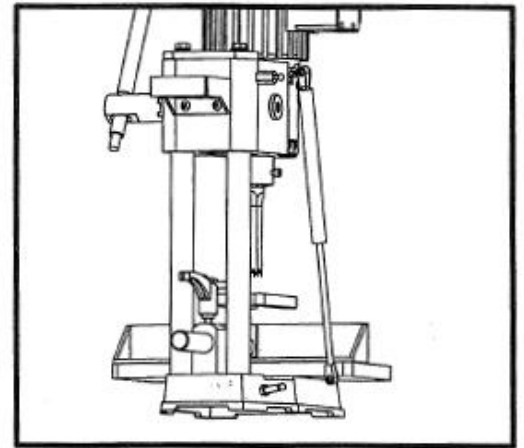

Fig.3
3. The gas spring ends snap into place over the ball-end junction. It may be necessary to compress the gas spring slightly to align the sockets in the gas spring with the ball-end junction. See Fig. 3.